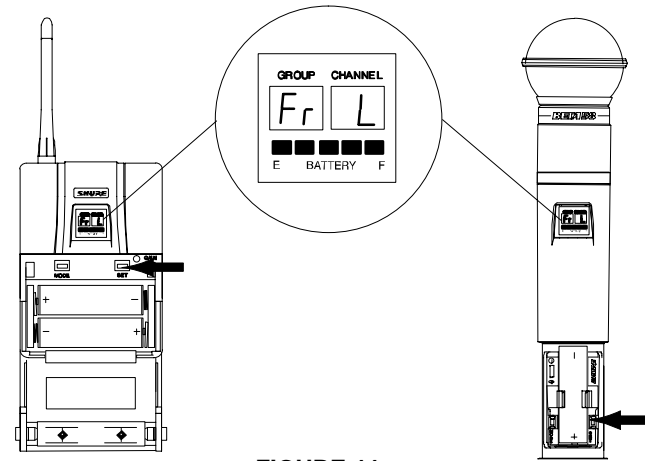

FIGURE 44
2. Turn the power back on while holding down the SET button until the fuel gauge on the transmitter is active. "Fr L" will appear momentarily, as shown in Figure 44, until you release the SET button.